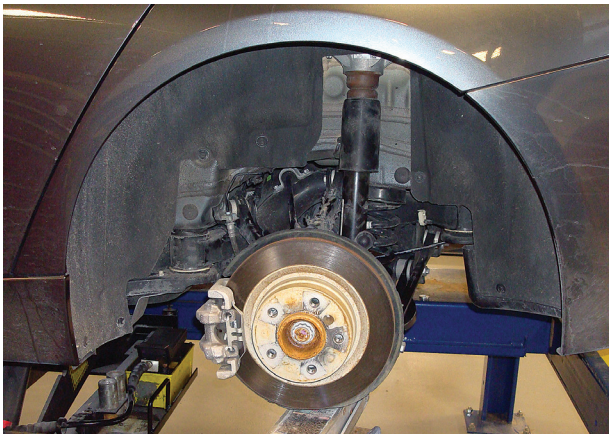

Fig. 4
1. Support the lower control arm (Figs. 4 & 5).